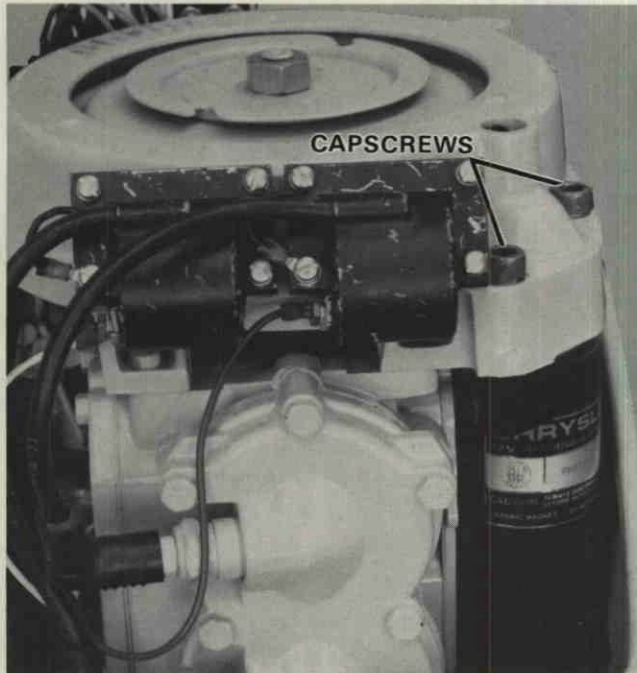

Figure 49. Removing Starter.
3. Remove the two capscrews and remove starter motor from starter support housing. Figure 49.